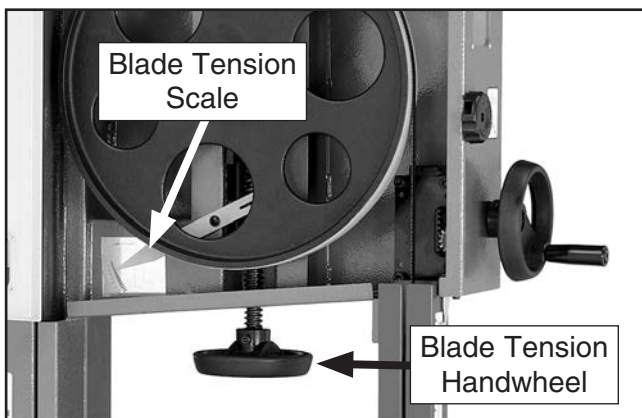

Figure 35. Blade tensioning controls.
4. Engage the quick tension lever, then turn the blade tension handwheel until the tension scale (see **Figure 35**) is between 4 and 6.